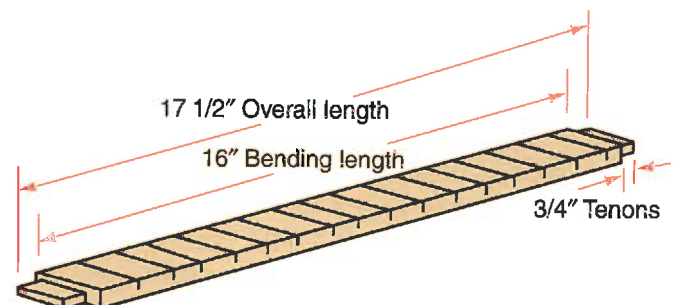

Figure 34-8. This is one of the four kerfed apron pieces for the table in Figure 34-6A.
1. Evenly space kerfs along the bent length. For our example of 16" (406 mm) bending length, the distance will be 1" (25 mm) from the end of the tenons and 1" (25 mm) between kerf centers. See Figure 34-8. Mark kerf centers.